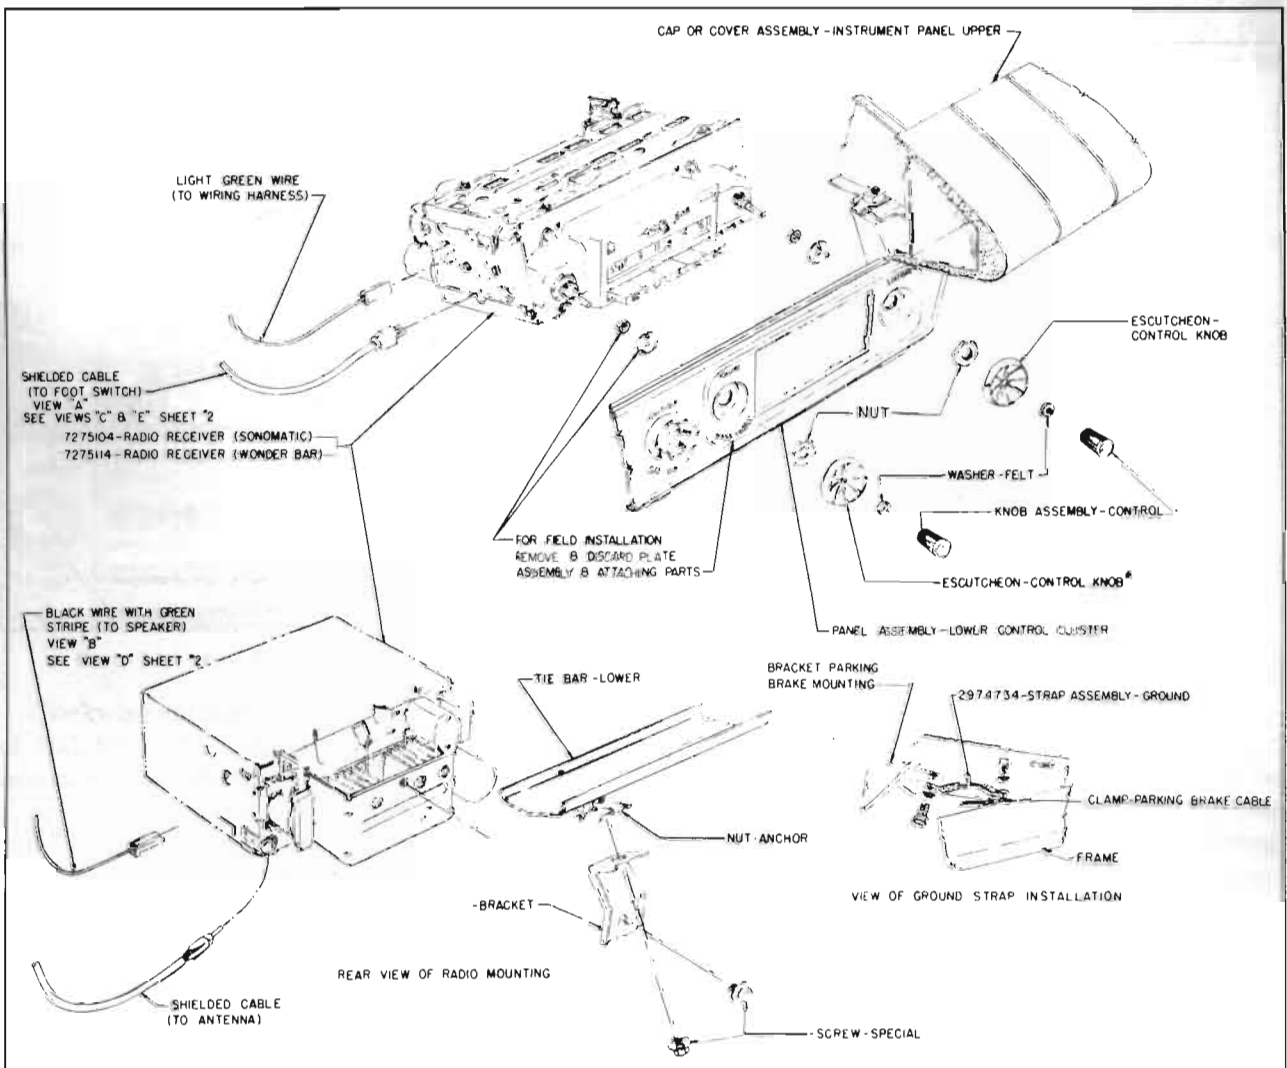

Figure 11-1—Radio Receiver Installation—Illustration #1
2. Install receiver from beneath, inserting threaded bushings through control holes in instrument panel. Install and tighten hex nuts on bushings. See Figure 11-1.
5. Plug in speaker wire, antenna lead in wire, wire harness wire, and if so equipped, Wonder Bar foot control wire. See Figure 11-1 and 11-2.